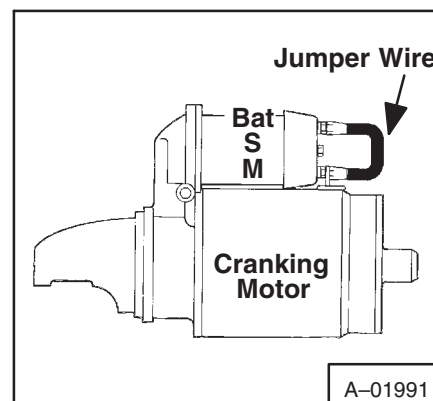

Fig. 6-27 Checking Starter
4. Connect the jumper wire between the battery connection on solenoid to the lower connection on starter (Fig. 6-27). If the starter turns rapidly the defect is in the solenoid. If starter does not turn, the defect is in the starter.